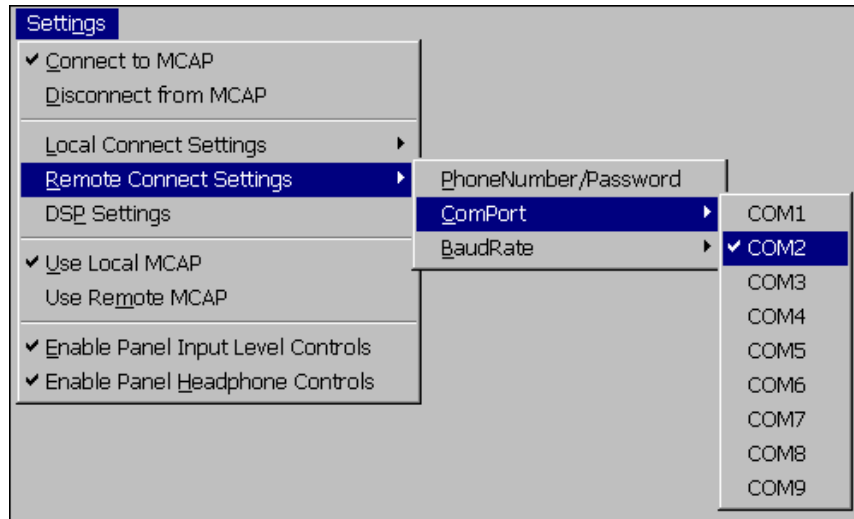

Figure 6-3 Remote Connect ComPort Selection Menu
2. When the pulldown menu appears, click on "Remote Connect Settings", then "Com Port". The display will now appear as in Figure 6-3.